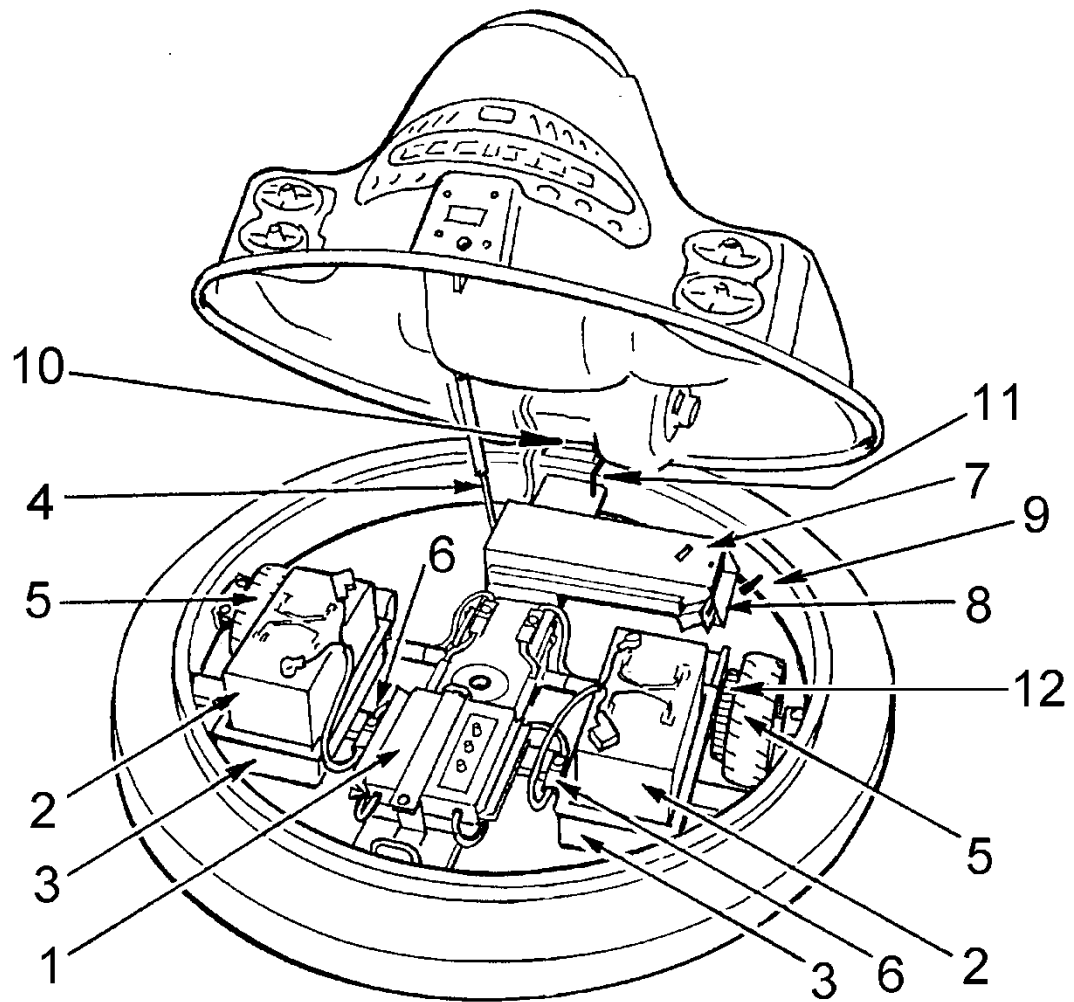

Fig 3.1a - Orbiter with body open
2. Note the coin counter numbers. (Fig 3.1a-8)
The pneumatic bumpers are shipped inflated to the maximum air pressure of 1 bar. The pressure should now be adjusted to suit the particular conditions at each site. Using the valve (Fig 3.1a-9) partially deflate the bumper to provide the maximum impact protection.